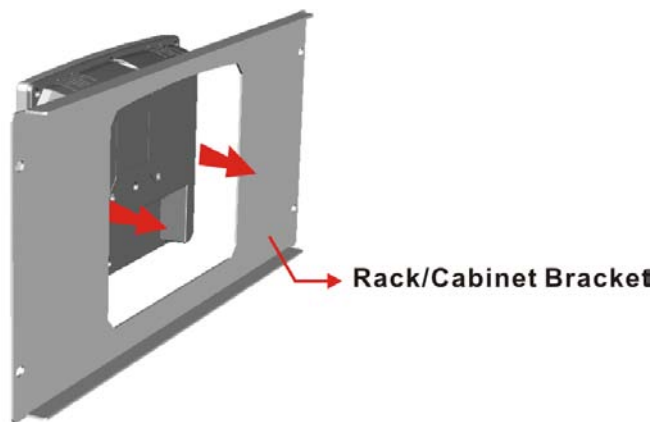

Figure 3-23: The Rack/Cabinet Bracket
Step 1: Slide the rear of the DM-F series LCD monitor through the rack/cabinet bracket until the aluminum frame is flush against the front of the bracket (**Figure 3-23**).